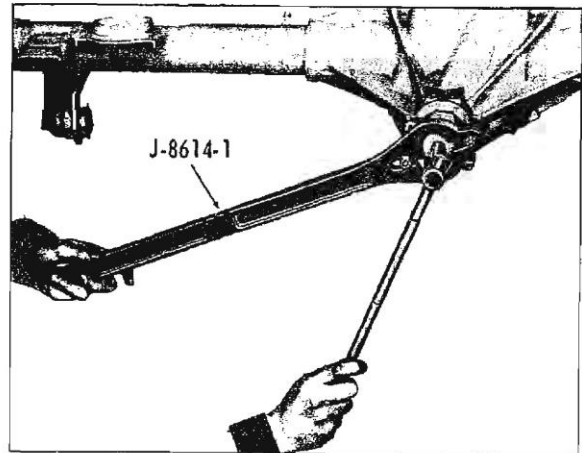

Fig. 4-7 Removing Pinion Nut
4. Hold companion flange with tool J-8614-1 (Fig. 4-7) and remove drive pinion nut and washer, using heavy-duty socket.
6. Count the number of exposed threads from top of pinion stem to lock nut. Remove lock nut with a heavy-duty socket while holding companion flange with J-8614-1 (Fig. 4-7).